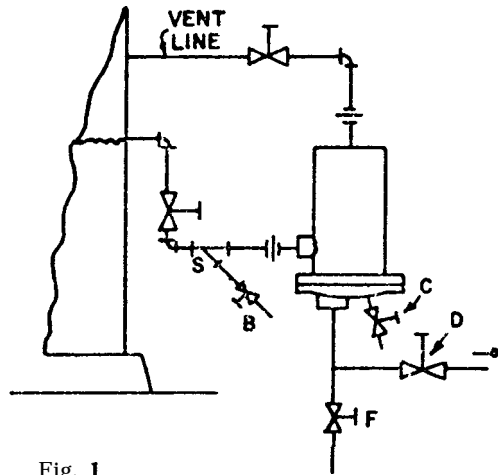

Fig. 1
- 3) On medium and heavy loads, and where there is horizontal drain piping, install the drainer with a vent line as shown in Fig. 1. In order for liquid to enter the drainer in this piping configuration, noncondensable gases must be backvented. Without the vent line, these gases would not be displaced and liquid would back up in the inlet piping. Install a strainer if scale or grit are present, as they may prevent proper seating of the valve. **Blowdown** valve C and test valve F are important for checking drainer operation.